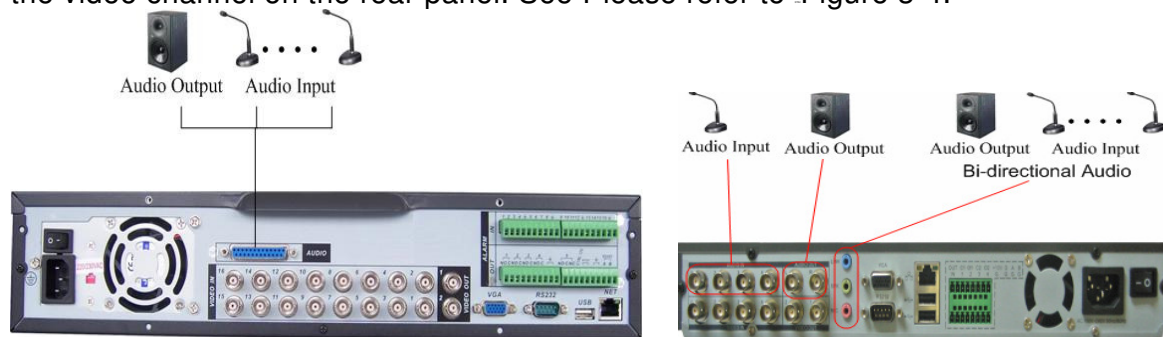

Figure 3-4
3. Connect a line input device or pre-amplified microphone to the audio connector for the video channel on the rear panel. See Please refer to Figure 3-4.